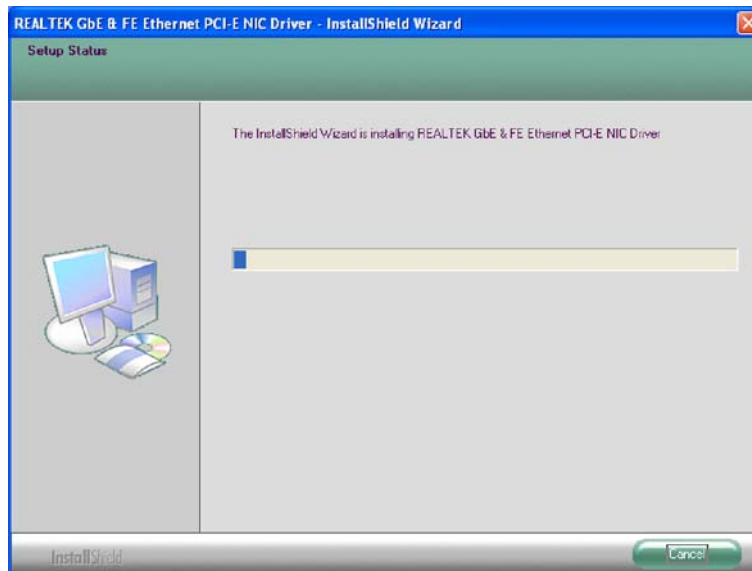

Figure 6-18: LAN Driver Installation
Step 8: The installation progress can be monitored in the progress bar shown in Figure 6-18.